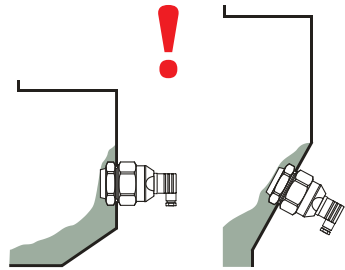

Fig. 2: Sticking of material when installing with a fastening nut
- When mounting the sensor onto a slant wall or on a bin sidewall using a fixing nut, some sticking materials can get stuck above the fixing nut. As a result, might cause false activation (locking) of the sensor. (see fig. 2).